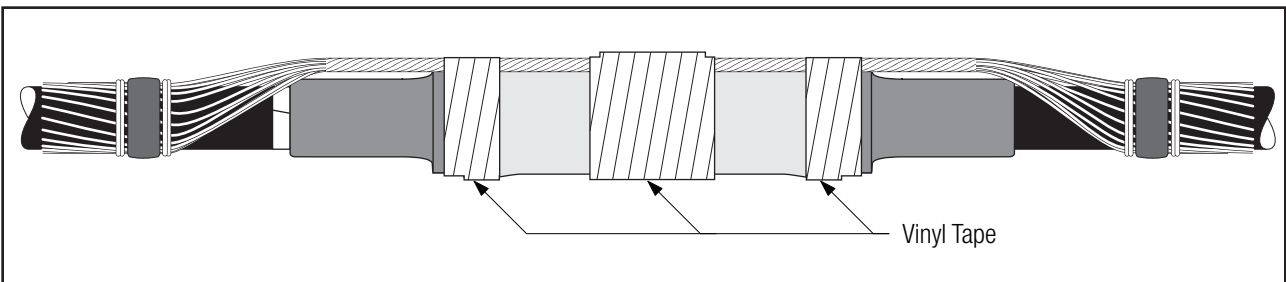

Figure 31
8.2.2 Apply two wraps of vinyl tape around each end of the neutral pad and over the connector (Figure 31).